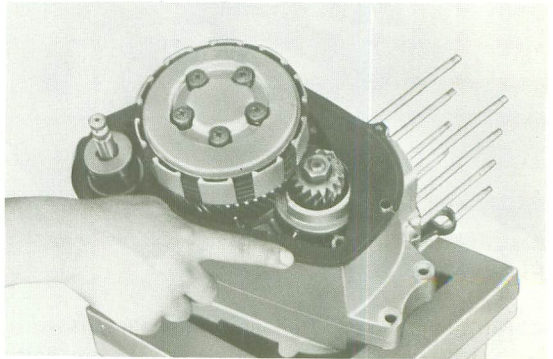

Fig. 4-7-4
- c. Replace the crankcase cover gasket, if damaged. (Fig. 4-7-4)